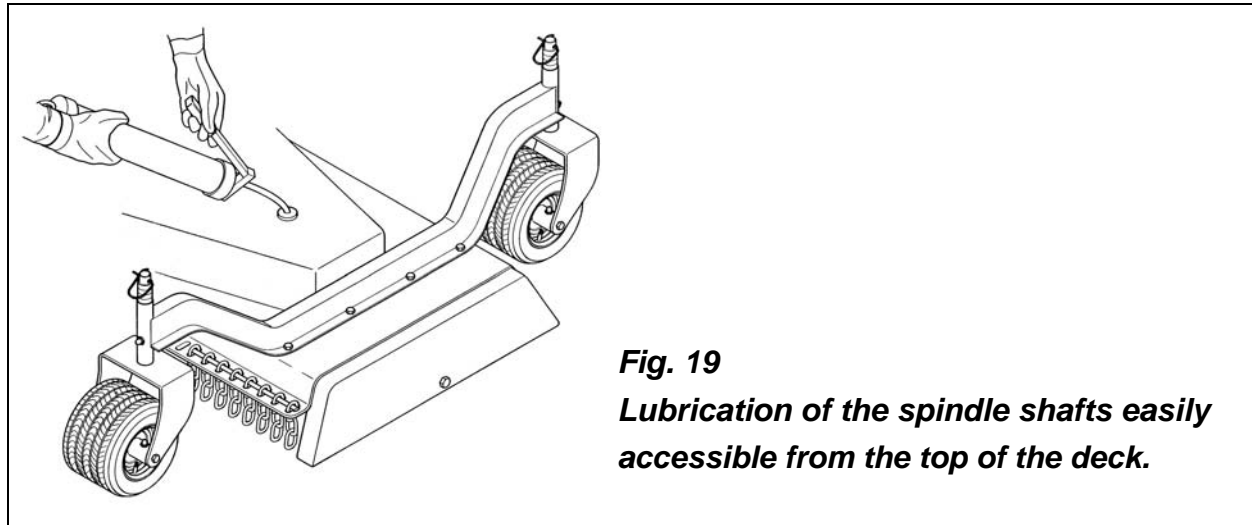

Fig. 19
1. Lubricate the nine spindles with two or three shots of multipurpose grease (**see fig. 19**). The top grease fittings are easily accessible from the top of the deck by simply removing the plastic dust guards.